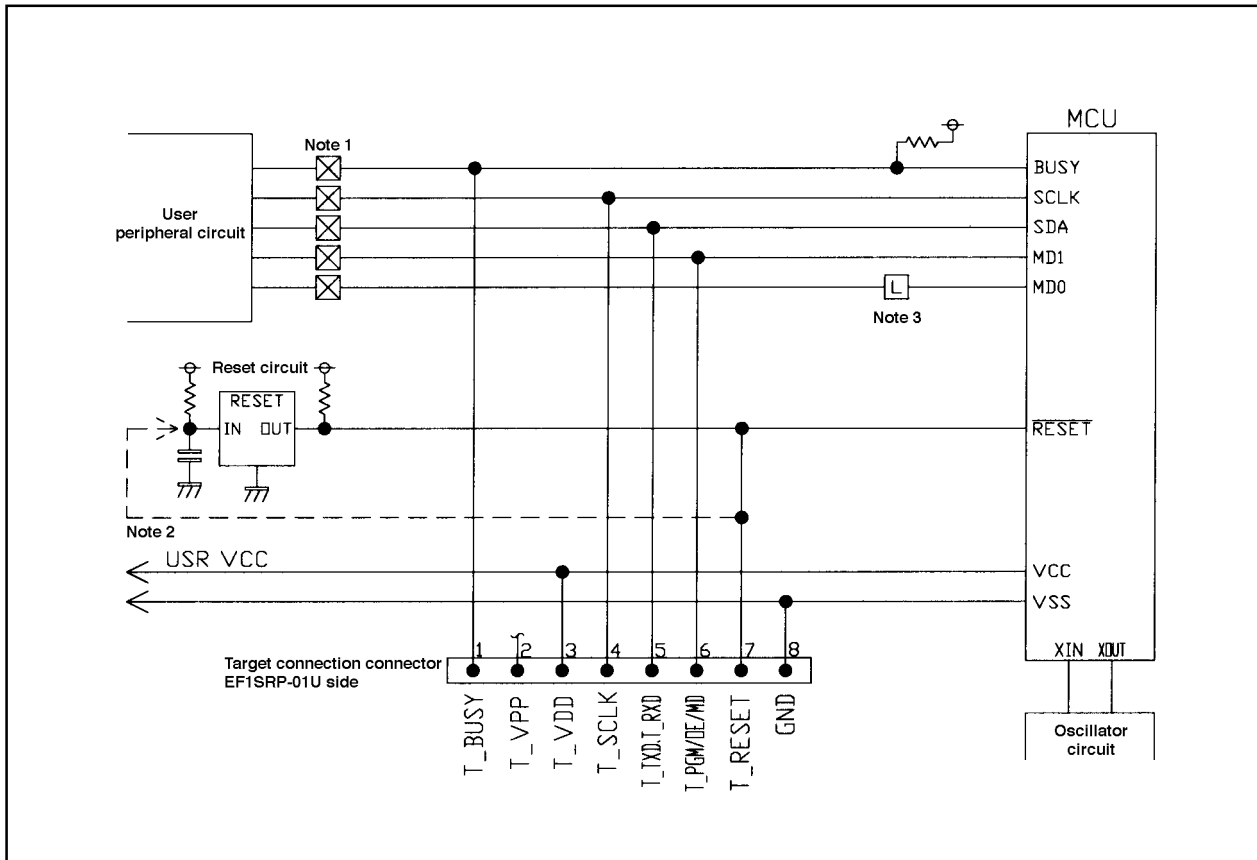

Fig. 4.1: Target MCU Peripheral Circuit Example
(1) An example of target MCU peripheral circuit when using the 7900 Series is shown in Fig. 4.1.